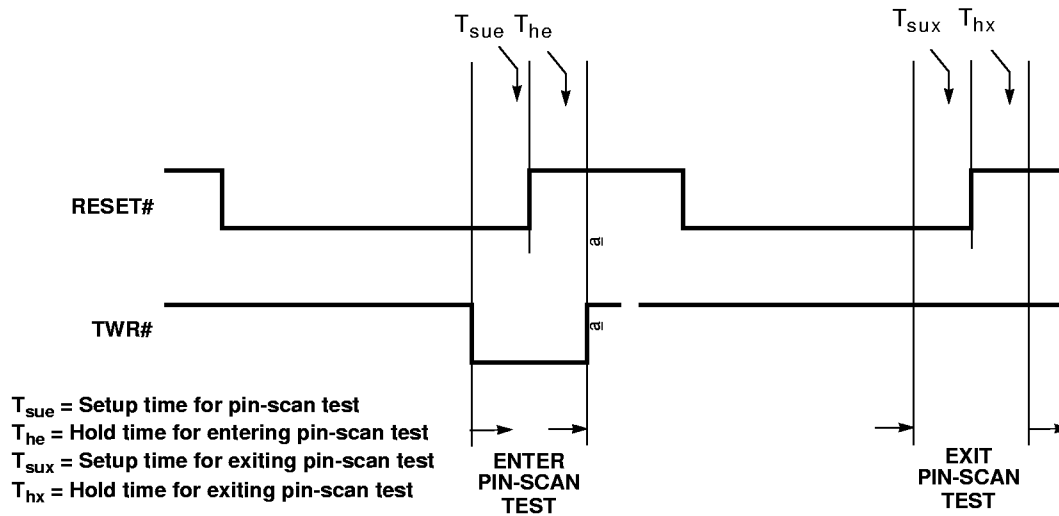

Figure J-1. Entering and Exiting the Pin-Scan Test Mode
1. To enter the Pin-Scan Test mode, as shown in Figure J-1, drive RESET# low at least 20 ns while TWR# is low and MD25 is high. Then, drive RESET# high to keep Extension register bit SR24[7] equal to '1'.
5. To exit the Pin-Scan Test mode, drive the RESET# from low to high while TWR# is high, as shown in Figure J-1